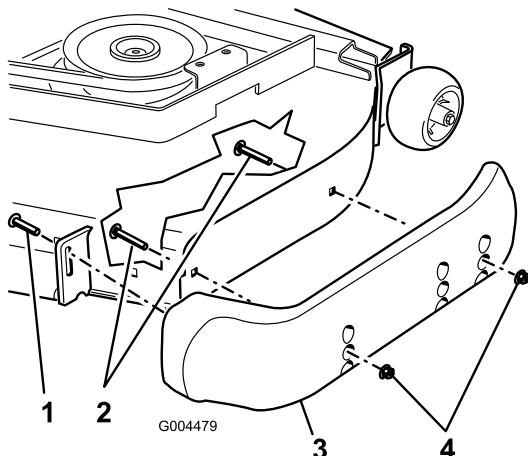

Figure 44
3. Loosen the screw at the front of each skid (2 skids on Guardian decks and 1 skid on side-discharge decks) as shown in Figure 44.